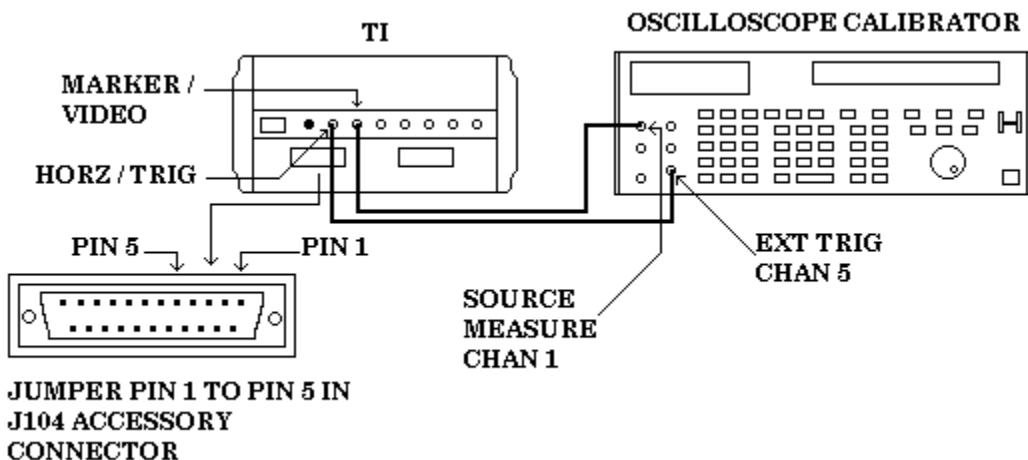

Figure 6. Sweep time adjustment setup.
- (15) Use TI **◀▶ POSITION** control to realign dot to center graticule of CRT.
- (16) Reduce all outputs to minimum and disconnect equipment setup.
- Connect equipment as shown in figure 6 below.